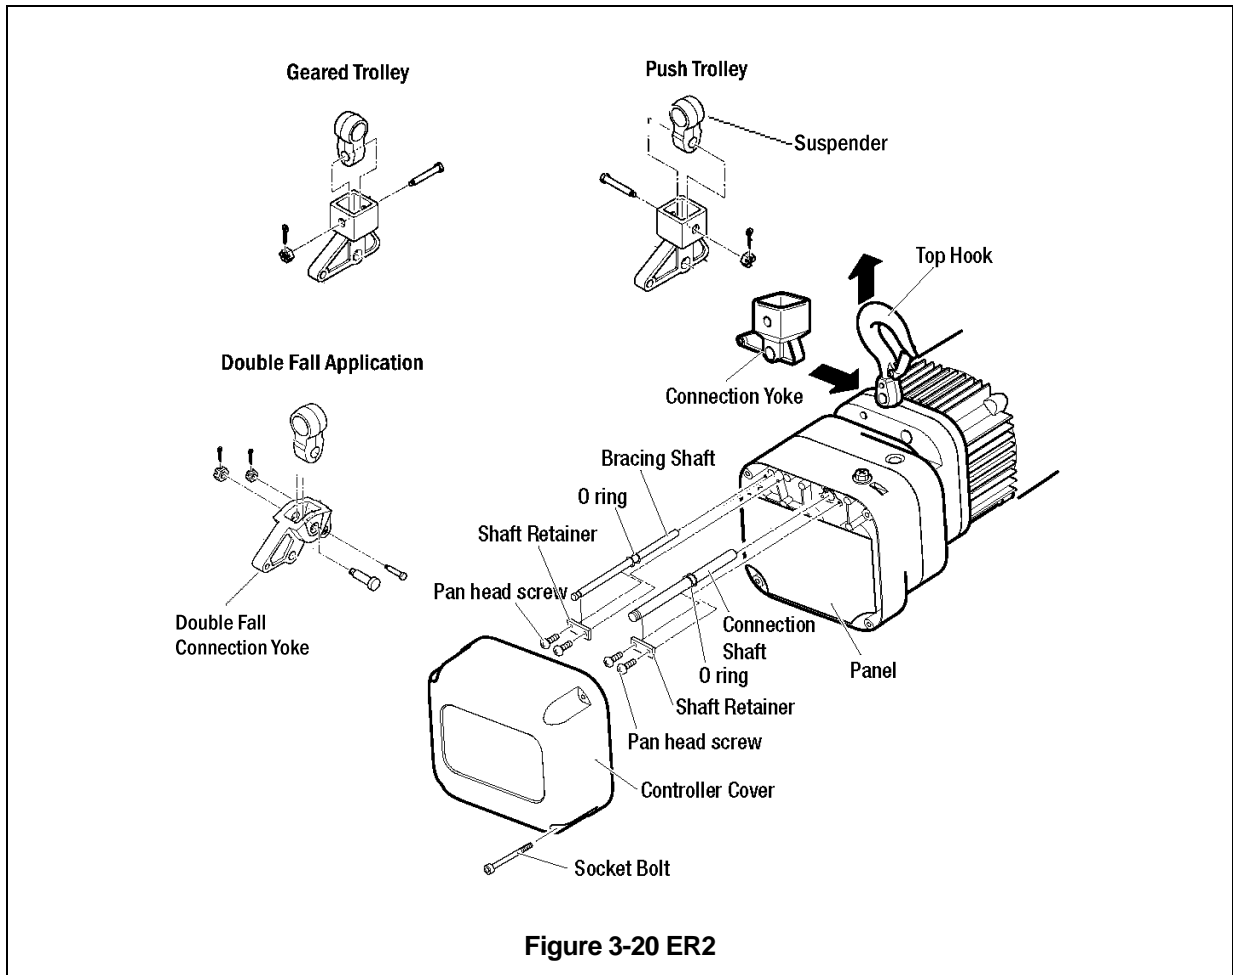

Figure 3-20 ER2
- 1) Refer to **Figure 3-20**
- 7) Install appropriate Suspender for the application, securing it to the Connection Yoke with the Yoke Bolt, Slotted Nut, and Slit Pin. **Note: (See Figure 3-20) Double Fall applications require a Chain Pin, small Slotted Nut, and small Split Pin, in addition to the Yoke Bolt, Slotted Nut, and Split Pin.**